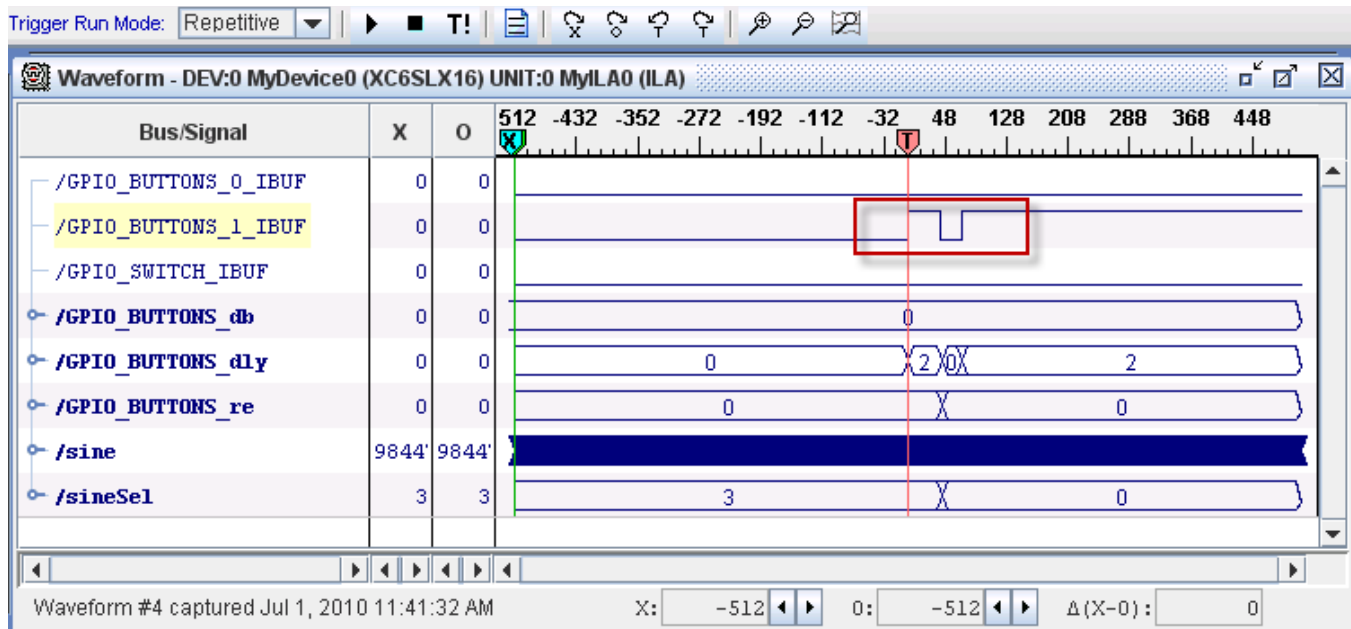

Figure 9: GPIO Buttons_1_IBUF Signal Glitch
7. On the board, press the *Sine Wave Sequencer* button until you see multiple transitions on the `GPIO_BUTTONS_1_IBUF` signal (this could take 20 or more tries). This is a visualization of the glitch that is occurring on the input. An example of the glitch is shown in Figure 9.